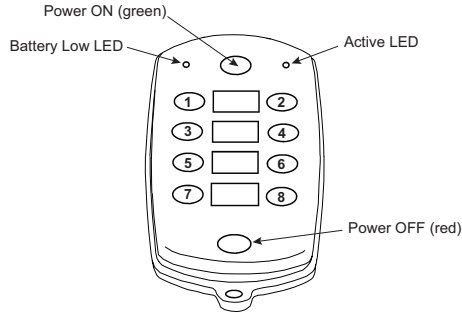

Figure 1
These instructions refer to the transmitter in Figure 1. Press and release Power ON button (green) to turn radio transmitter on. Yellow LED will begin flashing.
1. Pressing the Power OFF button (red) (Figure 1) while operating the mixer will result in the following: